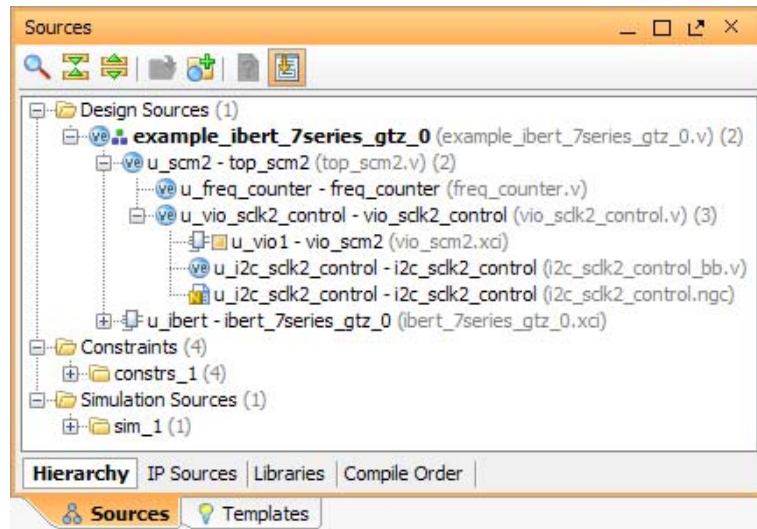

Figure 3-8: Design Sources File Hierarchy
7. In the Sources window, Design Sources should now reflect that the SuperClock-2 module is part of the example IBERT design (Figure 3-8).